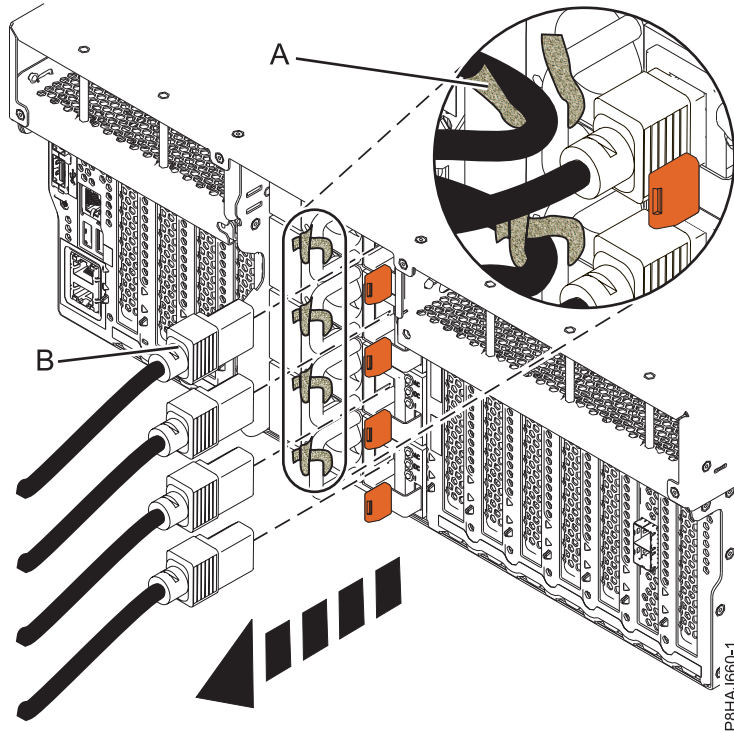
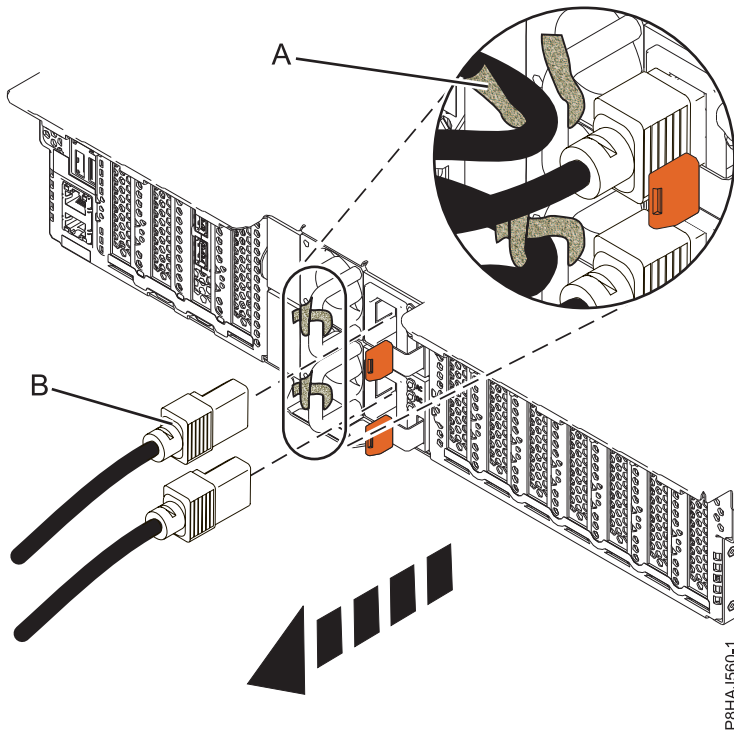
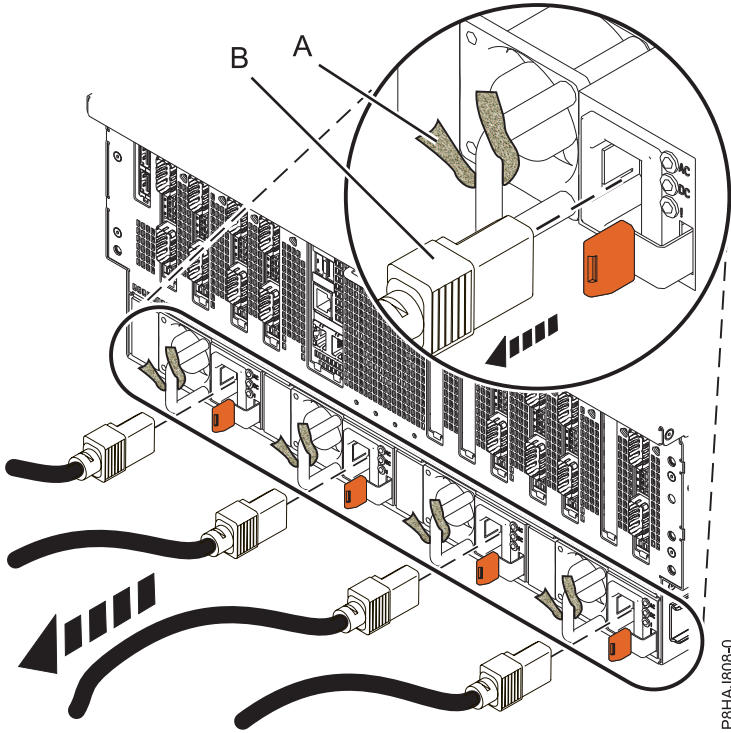

Figure 38. Removing the power cords from an 8247-42L, 8286-41A, or 8286-42A system
Figure 39. Removing the power cords from an 8247-21L, 8247-22L, or 8284-22A system
Figure 40. Removing the power cords from an 8408-44E or 8408-E8E system
3. Disconnect the power cords (**B**) from the system unit. See Figure 38 on page 51, Figure 39 on page 51, or Figure 40 on page 52 or depending on the type of your system.